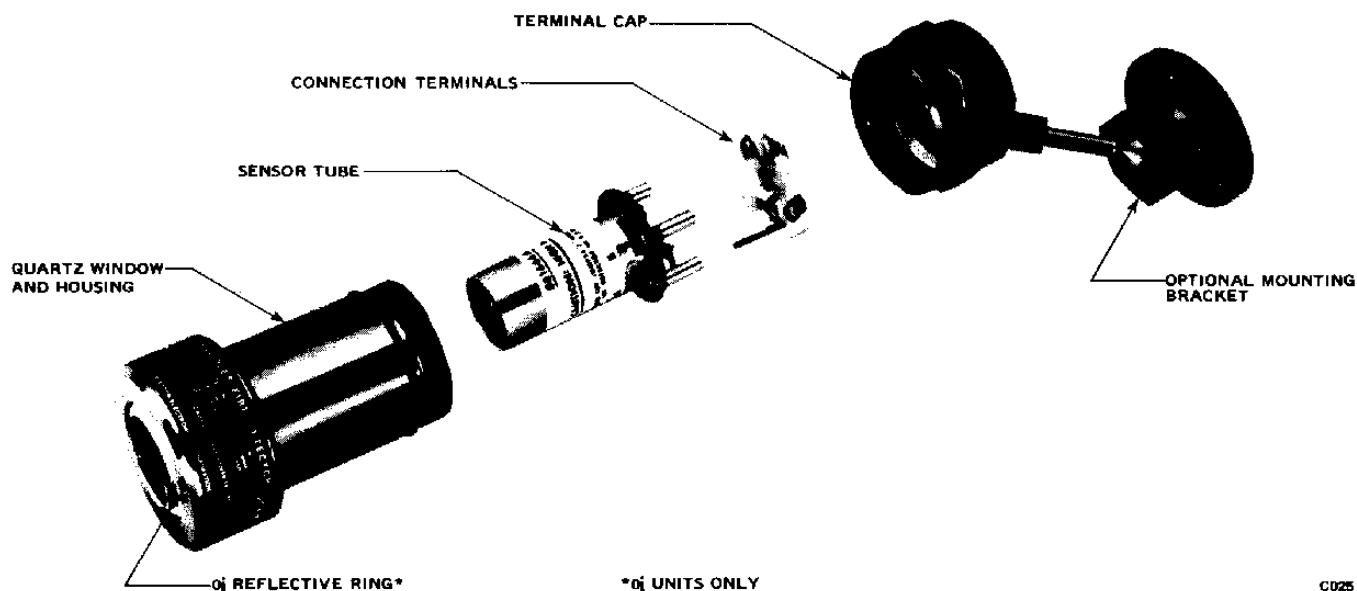

Figure 13--C7050 Detector Assembly.
2. Remove the detector housing by turning the housing cover counterclockwise. See Figure 13 for example of detector housing.